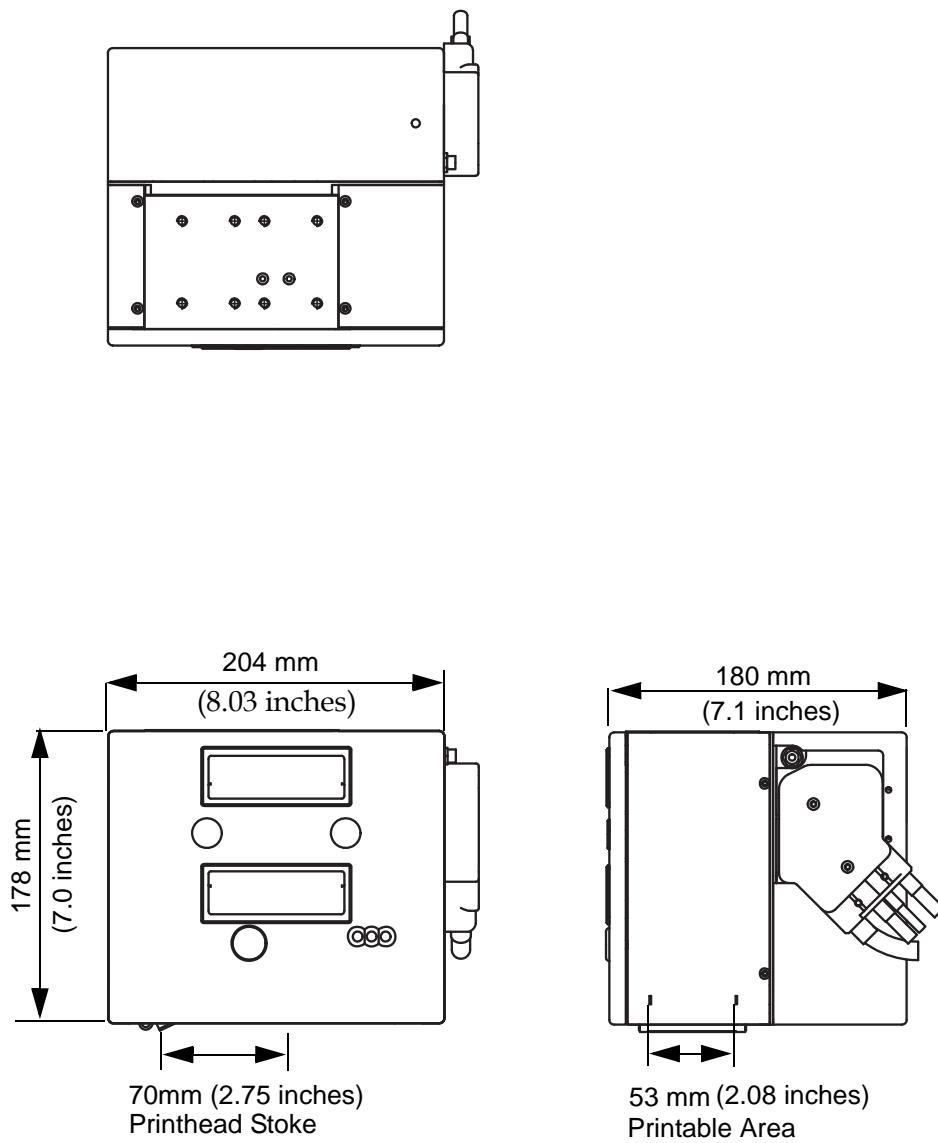

Figure 9-1: 53mm RH Printer Dimensions
Figure 9-1 shows the dimensions of the 53-mm (RH) printer.